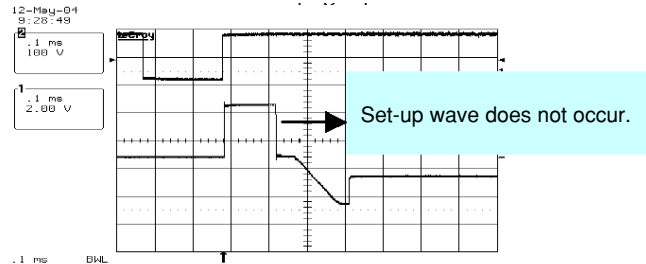

Fig. 3 When the Set\_Up FET is damaged
- Waveform : As shown in Fig. 3.